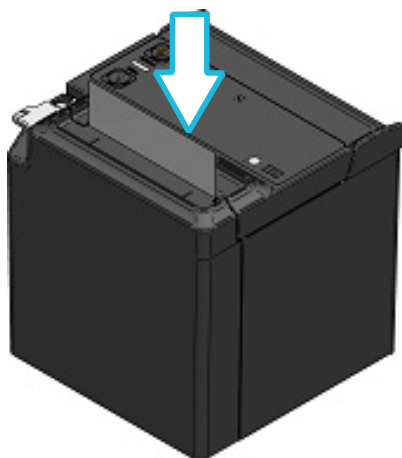

Figure 8-7 Paper Cover (Top Eject)
- (5) Push firmly the part indicated by the arrow in Figure 8-7 and Figure 8-8 to close the paper cover to avoid one side lock defect.